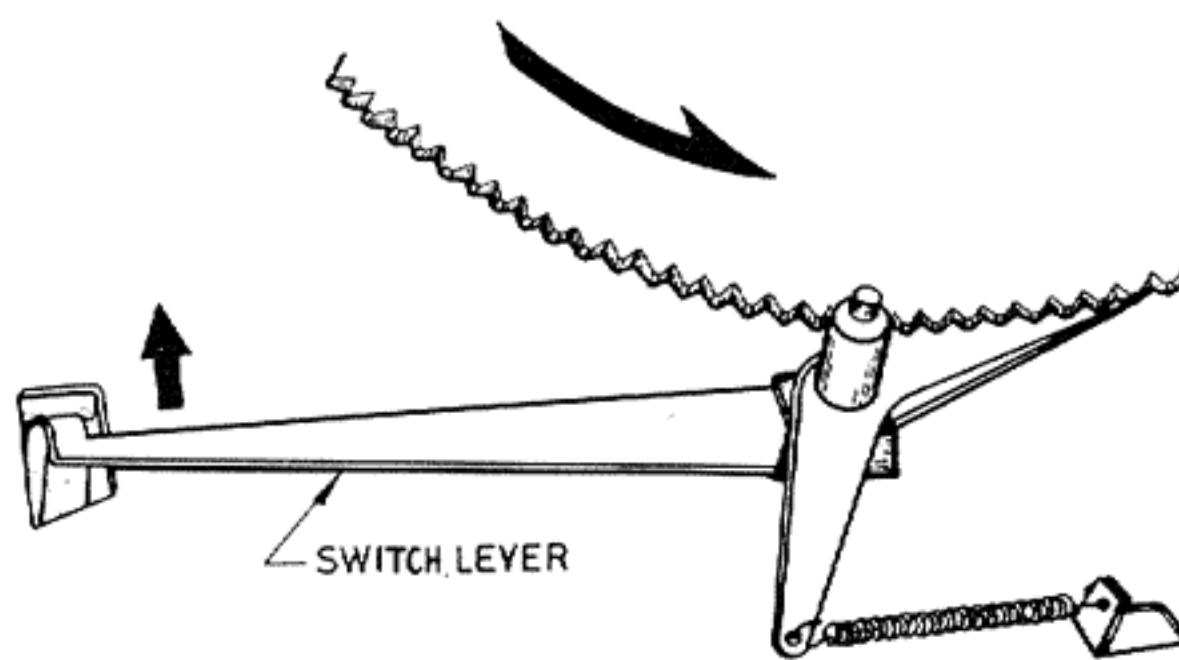

Fig. 10
3) The rotation of the gearing causes the slide plate and the switching lever to push the contact after the pick-up has fully risen. The motor is automatically switched off (Auto-Stop). The pick-up remains in the upper position; it does not return. (Fig. 10)